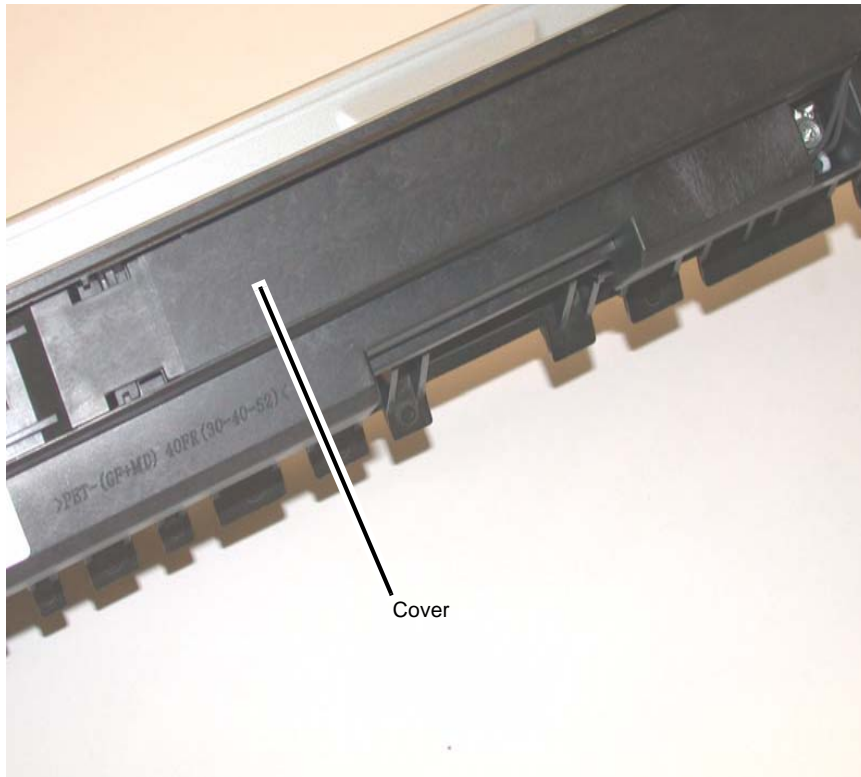

Figure 1 Removing the Cover
2. Slide the Cover to the left and remove (Figure 1).